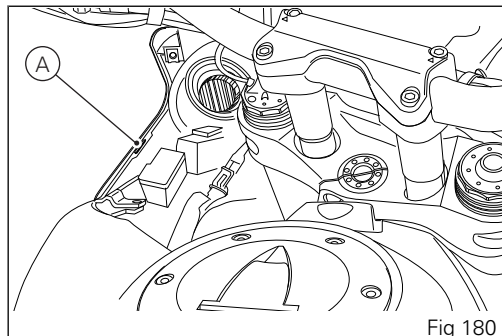

Fig 180
Reconnect the connector (5) and refit the panels (4) that were removed being careful to insert the tabs (B) into the slots A, (Fig 180) made in the headlight fairing.